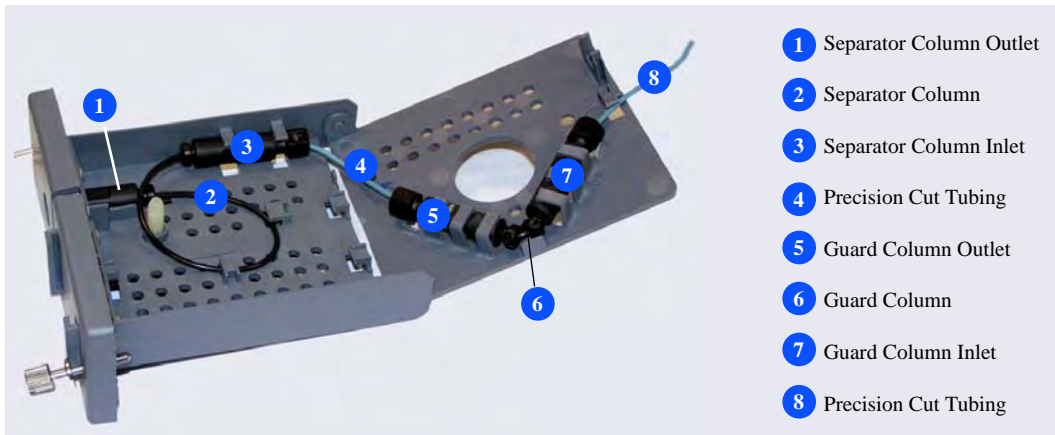
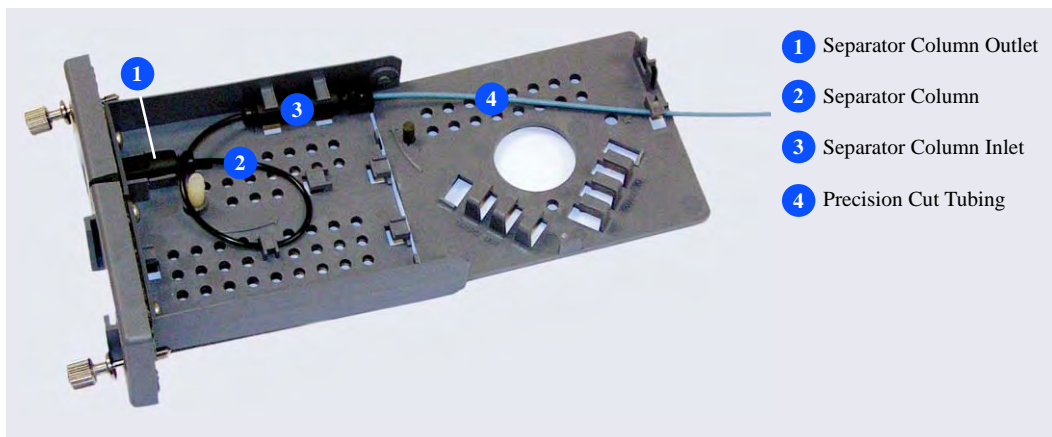

Figure 1
Figure 2
Before installing the new separator column, tear off the column label and slide it into the holder on the front of the cartridge (see Figure 1).
For reference, Figure 1 shows the column cartridge after installation of both a capillary guard column and a capillary separator column. Figure 2 shows the column cartridge after installation of only a capillary separator column.
- Coil the capillary column tubing inside the cartridge as shown in Figure 1 or Figure 2. Secure the column tubing and the inlet fitting in the clips on the column cartridge.